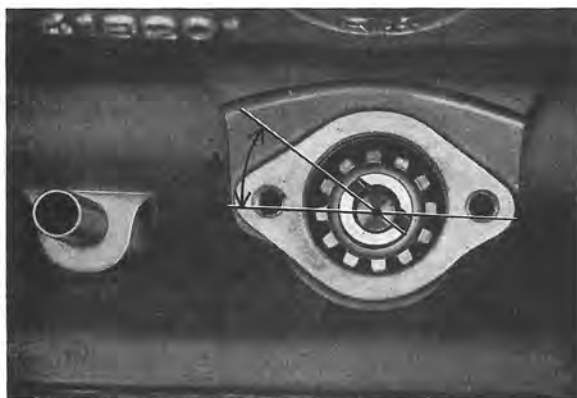

Fig. 2-52. Distributor drive position
When No. 1 cylinder is at top dead center, fit the oil pump drive and distributor. The small part at the groove is turned obliquely upwards-backwards and the groove set at an angle of 35° to the longitudinal axis of the engine, see Fig. 2-52 (A). Make sure that the shaft goes down into its groove in the pump shaft. (NOTE. When the timing gear marks are opposite each other, then the piston for No. 6 cylinder is in the top dead center, firing position.)